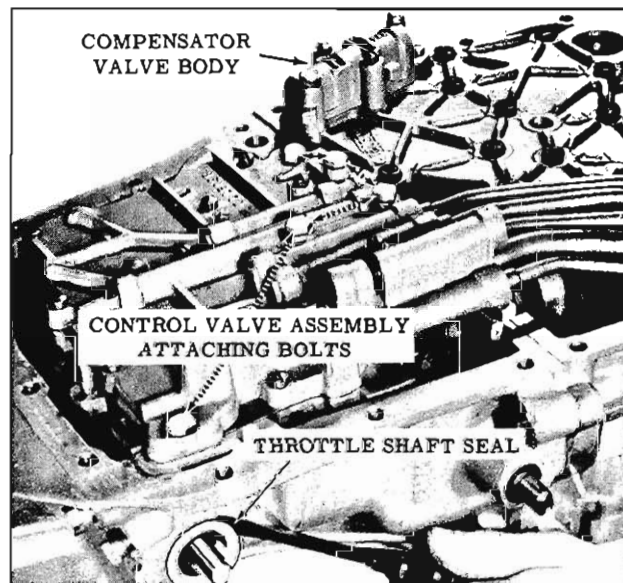

Fig. 6-21 Valve Bodies and Seal
6. Pry T.V. shaft seal from side of rear bearing retainer. (Fig. 6-21)
7. Remove five control valve assembly attaching bolts and carefully remove control valve assembly from the pipe assembly and rear bearing retainer. (Fig. 6-21) **DO NOT DROP THE MANUAL VALVE.**
9. Remove the compensator valve body assembly from the servo and accumulator cover by removing one bolt and three screws. (Fig. 6-21)